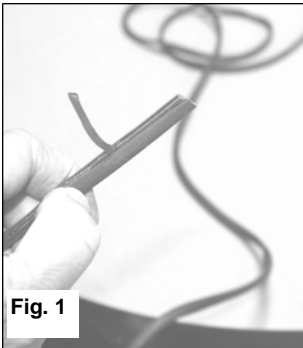

Fig. 1
NOTE: Make sure the red lining is on the inside of the flare. FIG 1 and 2
**IMPORTANT:** Look for an embossed mark on the front edge of the rear flares. Make sure that you are installing the Passenger side flare on the Passenger side of the Jeep and vice-versa. FIG 1